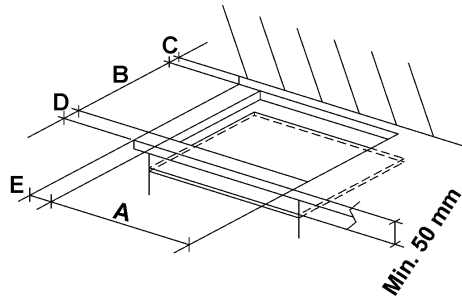

FIG. 9
Refer to figure 9 - 10 for required clearances around appliance.
The installation shall comply with the dimensions in Figures 9 and 10, bearing in mind that:
The measurements of the opening made in the top of the modular cabinet and into which the hot plate will be installed are indicated in either fig. 9. Always comply with the measurements given for the hole into which the appliance will be recessed (see fig. 9 and 10).
- The timber barrier must be fitted below the surface of the working top leaving 50 mm clearance at the rear of the hotplate to provide ventilation (fig. 9).